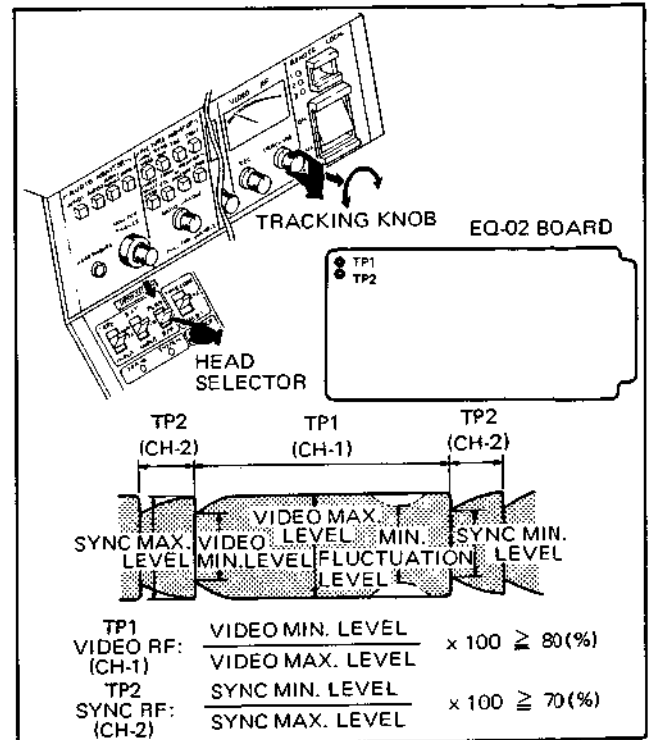

Fig. 3-70-1. Alignment Tape Playback Check
7. Check that the VIDEO and SYNC RF waveform show the specified value in Fig. 3-70-1.